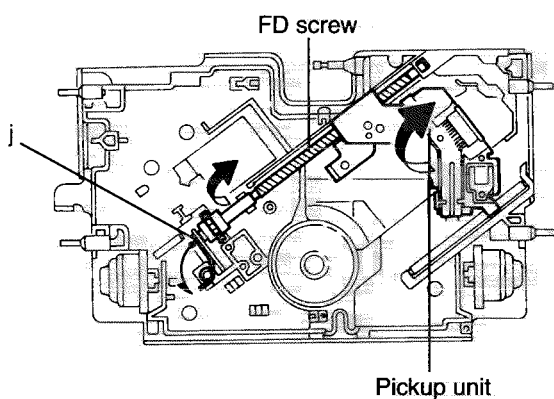

Fig.12
7. While pressing and expanding the spring section holding the FD screw in the arrow direction, remove the FD screw and dismount the pickup unit (See Fig.12).